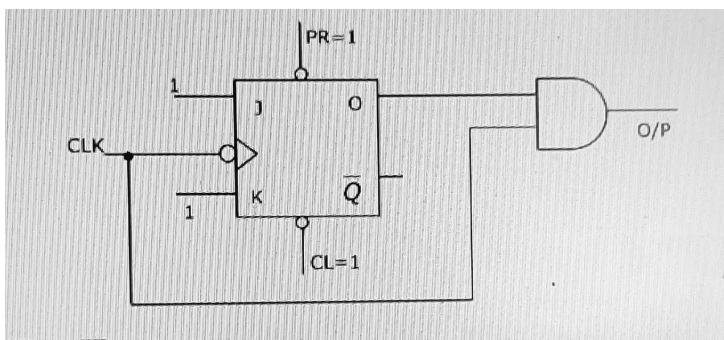

Fig. 5.18
18. The digital circuit shown in Fig. 5.18 generates a modified clockpulse at the output. Sketch the output waveform.